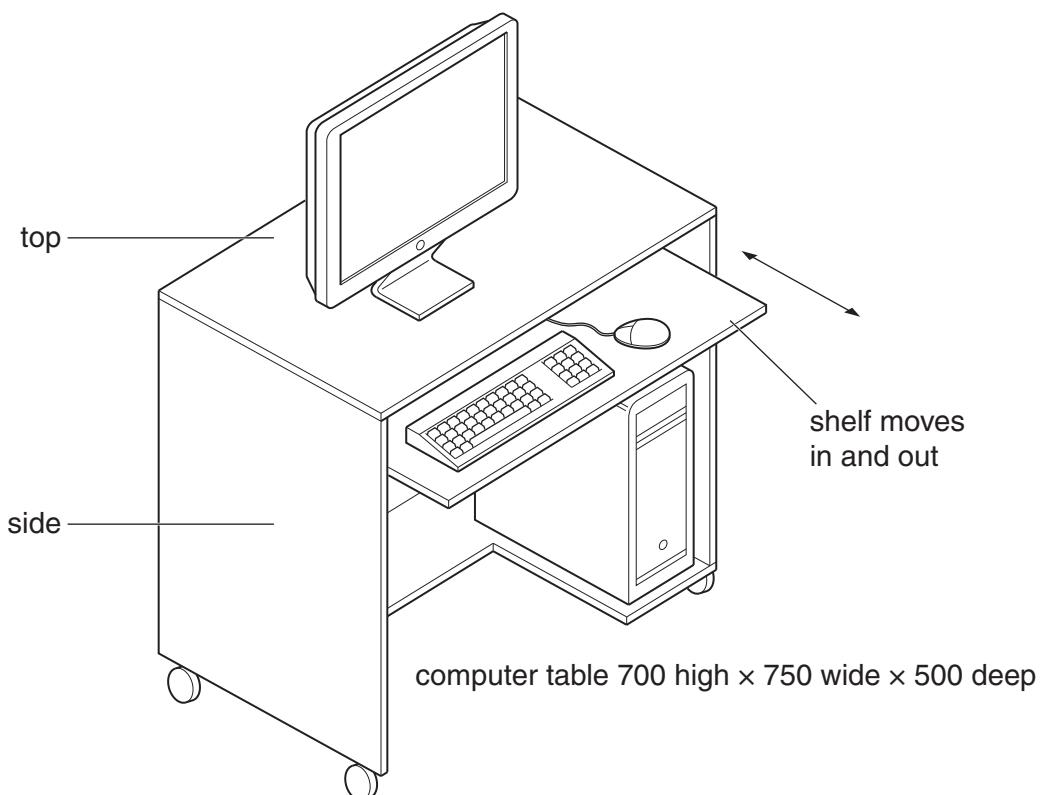

Fig. 4
- 3 Fig. 4 shows a computer table made from 25 mm thick manufactured board. The computer table is supplied as flat-pack for self-assembly.
- (a) Use sketches and notes to show how knock-down (KD) fittings could be used to join **one** side to the top of the computer table.
- (b) Use sketches and notes to show how the shelf, used to support the keyboard, could be made to slide in and out as shown in Fig. 4.